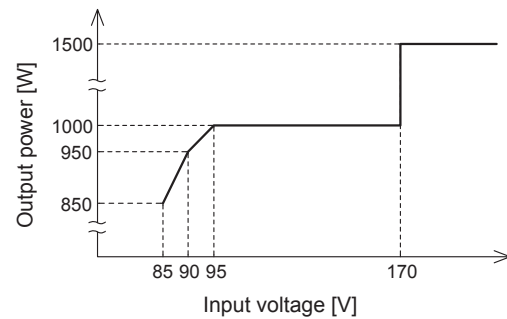

Fig.2.1 Input voltage derating curve
■ Fig.2.1 shows rated output for each input voltage section. Maximum output should be within this range.